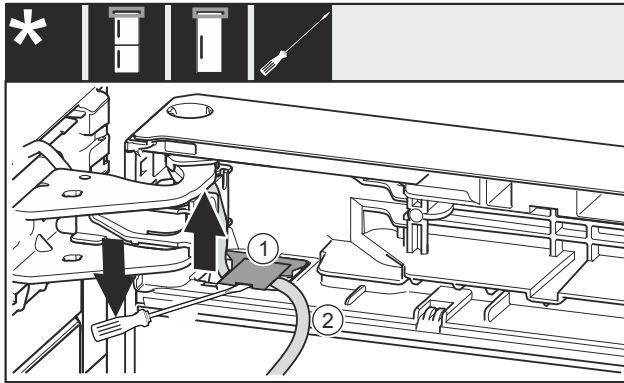

Fig. 12
- ▶ Use the slotted screwdriver to lift the cover Fig. 12 (1) up and pull it out.
- ▶ Pull out the cable Fig. 12 (2).